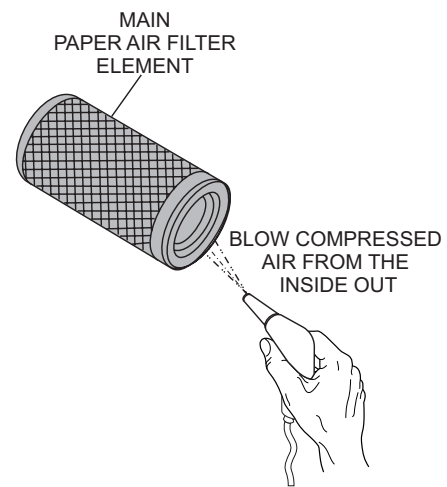

Figure 49. Cleaning Paper Air Filter Element
5. To clean the main element (paper air filter) as referenced in Figure 49, tap the filter element several times on a hard surface to remove dirt, or blow compressed air (not to exceed 30 psi [207 kPa, 2.1 kgf/cm²]) through the filter element from the inside out.